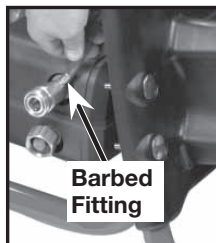

FIG.8
1. Make sure the chemical hose is pressed onto the barbed fitting located near high-pressure hose. (Fig. 8)